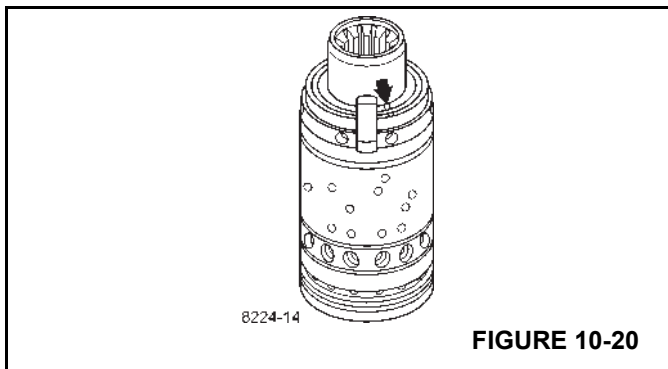

FIGURE 10-20
12. A small mark has been made with a pumice stone on both spool and sleeve close to one of the slots for the neutral position springs (Figure 10-20). If the mark is not visible, remember to leave a mark of your own on sleeve and spool before the neutral position springs are dismantled.
2. Assemble the spool/sleeve and make sure the marks on spool and sleeve are opposite each other (see Figure 10-20).